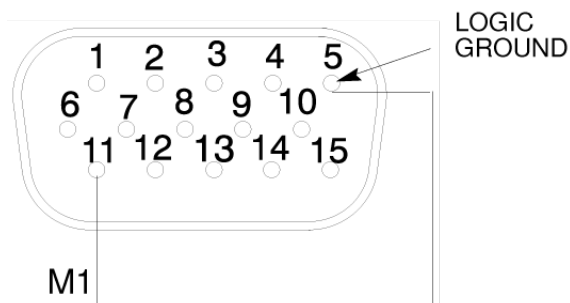

FIGURE 10: INHIBITING GATING FOR UNWANTED SOUNDS
2. Mute that channel using the logic terminal (see Figure 10). To perform this modification internally on the mixer, refer to the *Shorting Mute In to Logic Ground Internally* paragraph in the *Internal Modifications Addendum*.